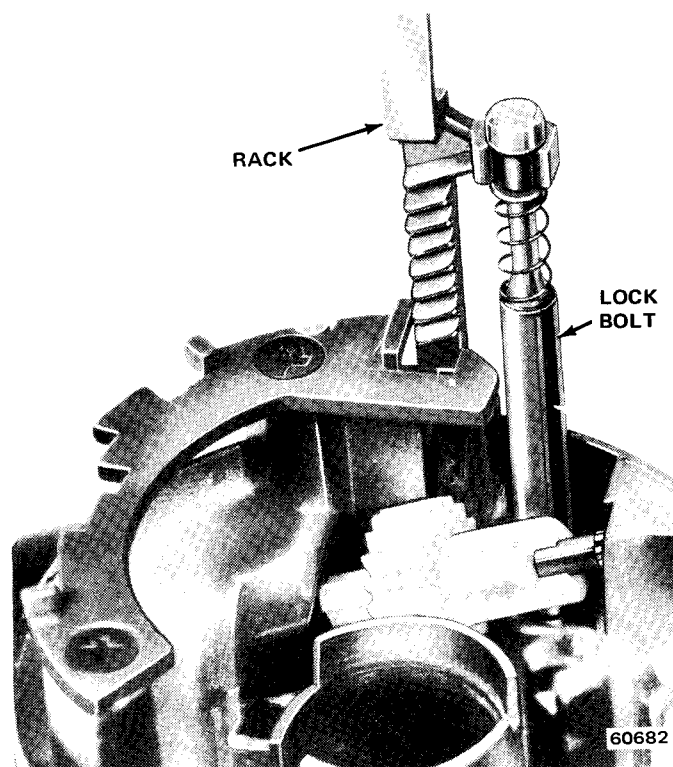

Fig. 11-35 Installing Rack and Lock Bolt
- (6) Install shift quadrant lamp and install lamp cover.
- (7) Install shift quadrant indicator and press retainer clips into place with flat side toward bowl.
- (8) Assemble lock bolt and rack (fig. 11-19) and install in shift bowl (fig. 11-35).